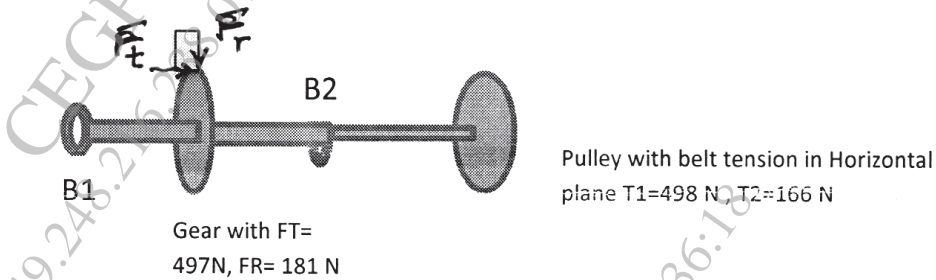

Figure 1
- Q6)** A transmission shaft rotating at 720 rpm and transmitting power from the pulley to a spur gear as shown in Fig. 1. The belt tensions on the pulley and the gear tooth forces on the gear are represented in the Fig. 1. The centre distance between B1 and spur gear is 100 mm, Spur gear and B2 is 150 mm and B2 to Pulley is 150 mm respectively. The weight of the pulley and gear are 100 N and 40 N respectively. The diameter of the shaft at the bearings is 20 mm. Take load factor as 2.5 and expected life of 90% the bearings is 8500 hours. Select the rolling contact bearing from manufacturer's catalogue. Use Table 1 and 2. **[10]**